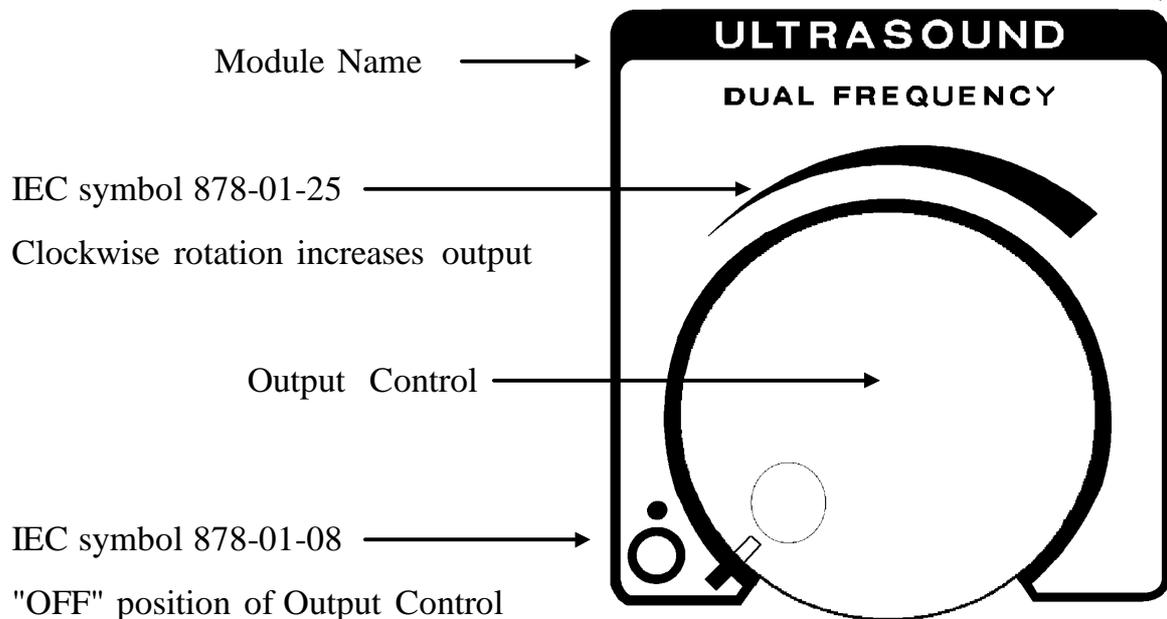

Figure 3 - Output Control
With the exception of the output intensity, all other settings for the Ultrasound Module are input from the Medi-Link Control Module. The Output Control is located at the top of the module (see figure 3)
14. Apply the active face of the selected transducer to the treatment site via the coupling medium and turn on the output control on the Ultrasound Module (figures 3 and 4). It will be felt to click on.